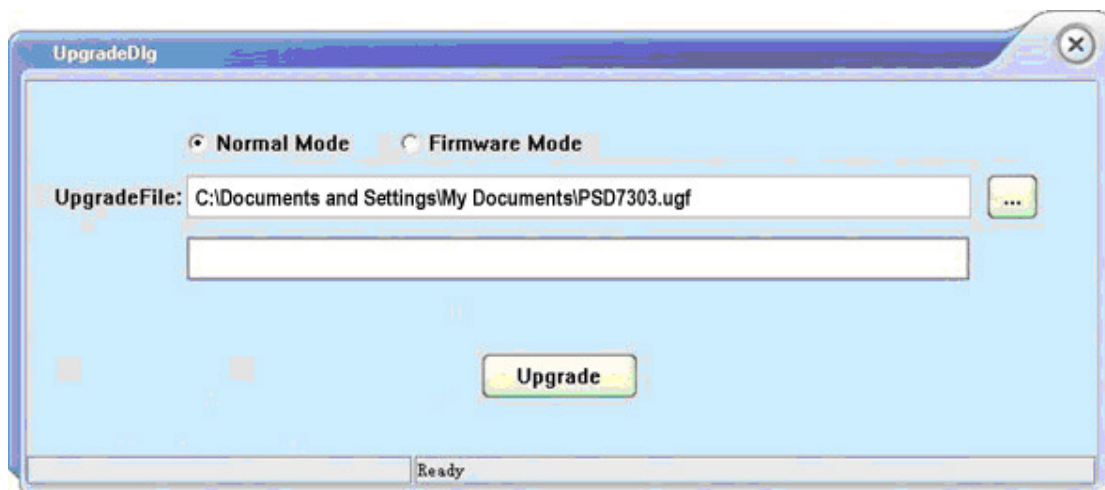

Figure 4
- As it shows in figure 4, click Upgrade button to start upgrading. The upgrade is finished when the progress bar complete and the instrument will run the version after upgrade.